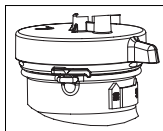

Figure 7
3. Remove cap assembly by rotating cap counterclockwise 1/4 turn to align arrow on cap with tab on tank (Figure 7). Pull cap off.